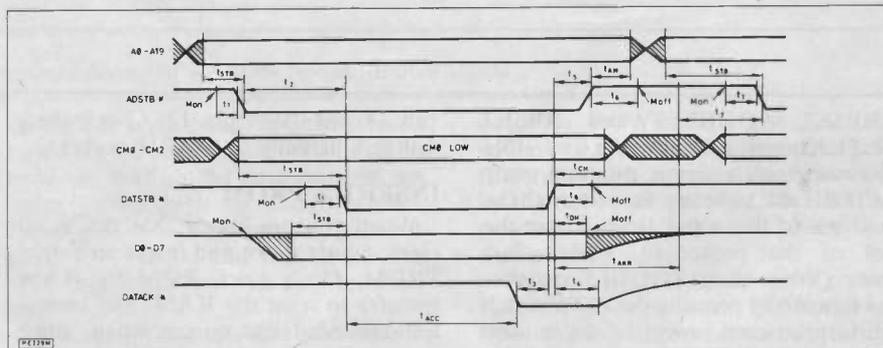

Fig.3. The Write sequence
(2) The Write Sequence (see Fig. 3). This basic form covers memory writes and I/O writes. The master initiates the sequence in a way very similar to that of the read. The first difference is that the master opens its data bus buffers and outputs the data to be written. This data must be stable on the bus  $t_{STB}$  before DATSTB\* achieves the low state. The slave, recognising that it is addressed sometime after detecting DATSTB\* low, enables the particular internal device addressed and, after opening its bus data buffers for input and allowing the internal data bus to settle, generates whatever write strobes are required by the addressed device. Only when the data is being latched internally does the slave pull DATAACK\* low. On detecting DATAACK\* low the master may begin to wrap up the transaction in exactly the same way as in the Read, with the additional aspect of having to disable its data bus drivers within 45ns ( $t_{DH}$ ) of DATSTB\* reaching the high state.  $t_{DH}$  is subject to the same suggested interpretation as are  $t_{AH}$  and  $t_{CH}$ , as the internal write signals of the slave may have active trailing edges and short set-up times.